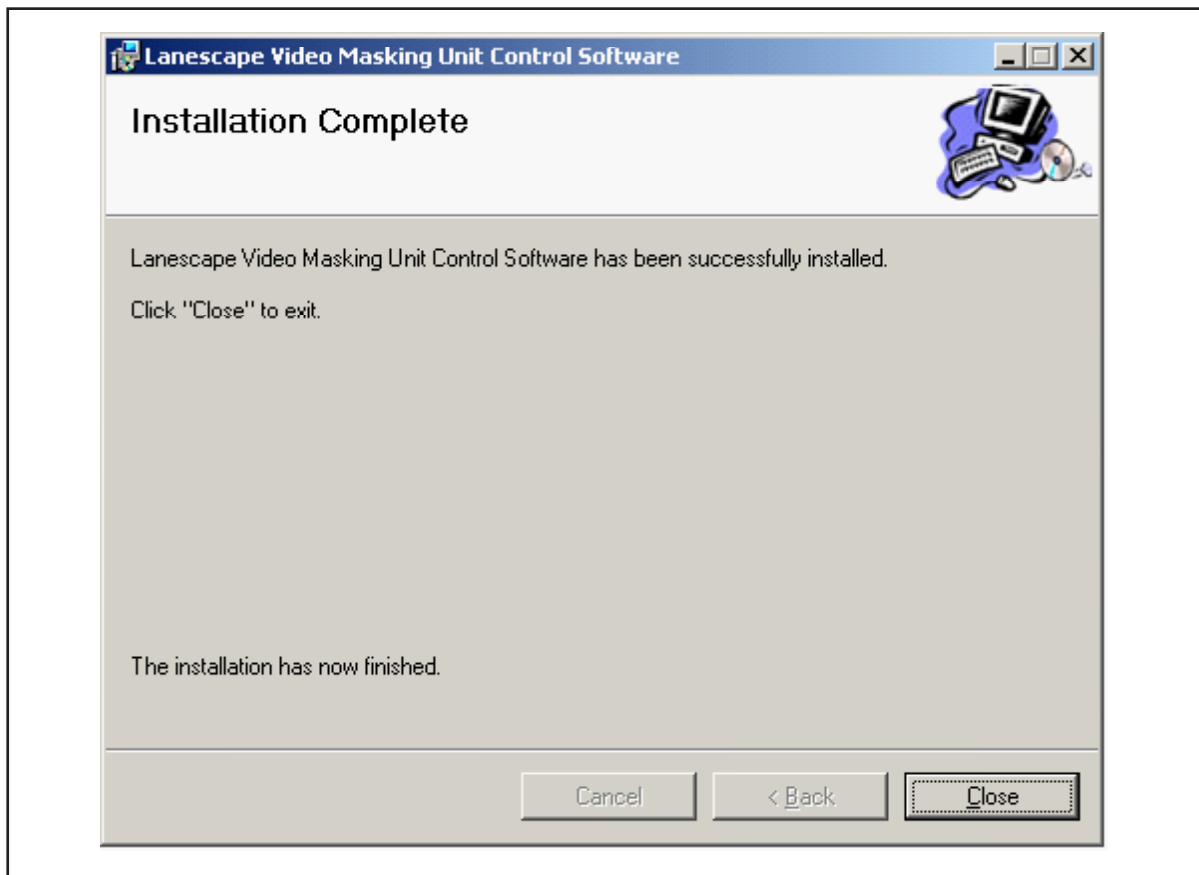

Figure 92
6. After less than a minute, you should see the message “Installation Complete.” Refer *Figure 92*.